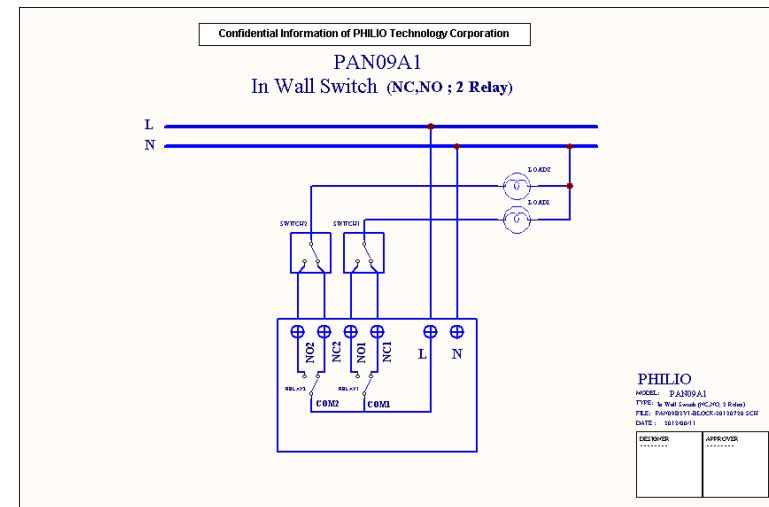

Fig 2. PAN09 Assembling
2. Connect the wall switch to the PAN07/PAN09 as Fig1/Fig2 .